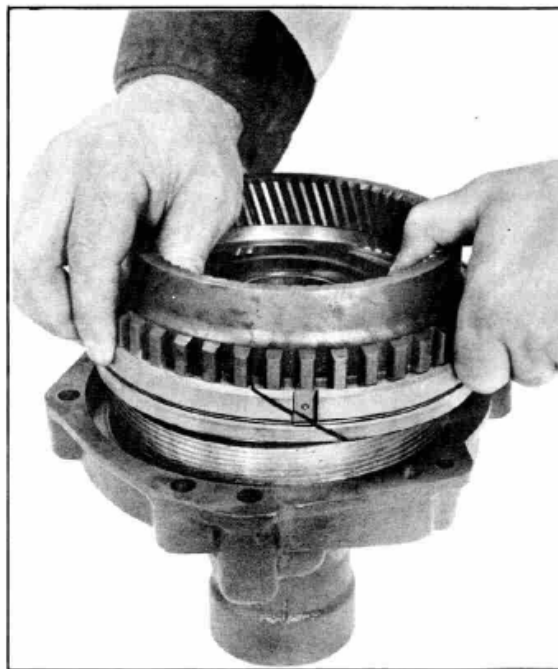

Figure 33
19. Install the reverse internal gear and stationary cone into the rear bearing retainer, compressing the stationary cone by hand, Figure 33. Position key-way of stationary cone so it will line up with key-way in transmission case when installed